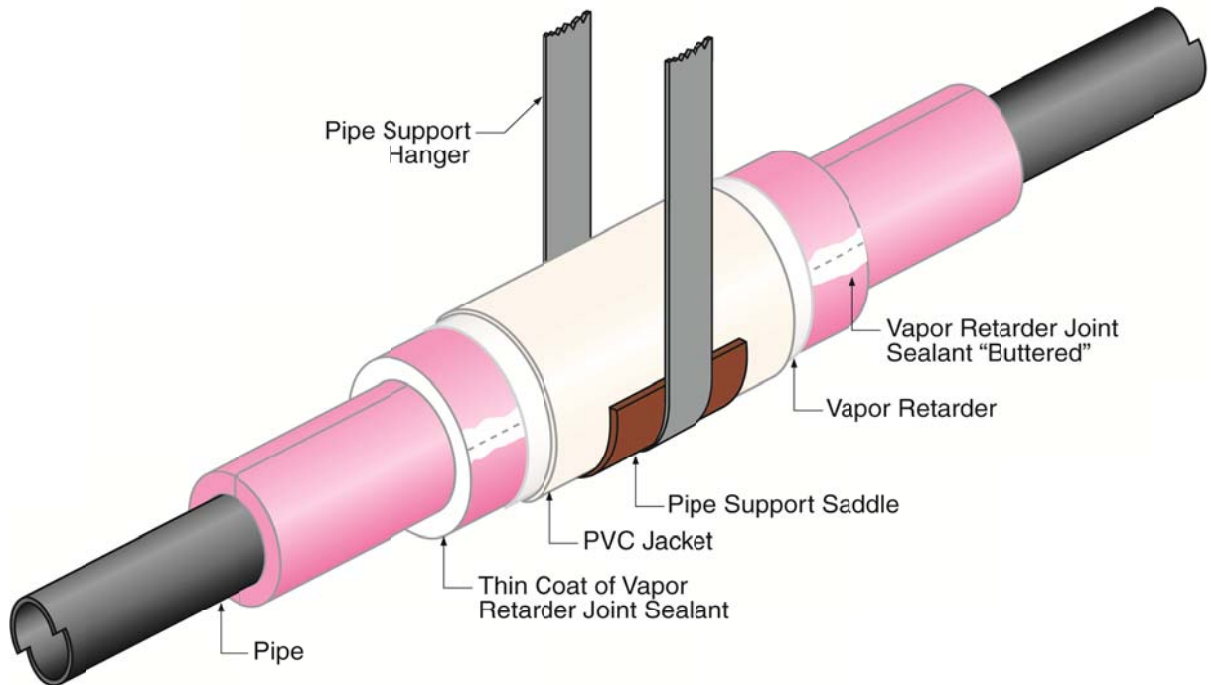

**Figure 10**
1. Stagger all longitudinal and butt joints between the inner and outer layers. Install the inner and outer layer longitudinal joints perpendicular to each other with the inner layer joints in the 12 and 6 o'clock positions and the outer layer joints in the 3 and 9 o'clock positions. All butt joints between the inner and outer layers shall be staggered between 6 and 18 inches. (Figures 10, Appendix A)
2. Inner layer shall not be installed with sealants. The inner and outer layer shall remain independent of each other so as to allow movement between the layers. (Figure 10, Appendix A)